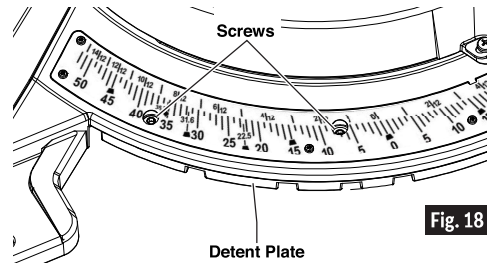

Fig. 18
2. Look for four round holes in the miter scale plate. In each hole is a screw. Use the small end of the 6/4mm hex key or a 4mm hex key to loosen all four screws 1 to 2 turns. This will loosen the miter detent plate (see Figure 18).
3. Lock saw down using the head assembly lock pin (item 43 – page 12).